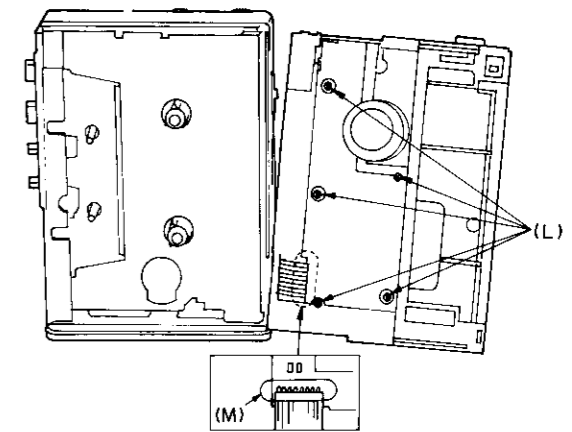

Fig. 6
5. Remove the screw (L) (1.4 × 2.5)mm × 5. (Fig. 6)
6. Remove the solder (M) from flexible PC board. (Fig. 6)